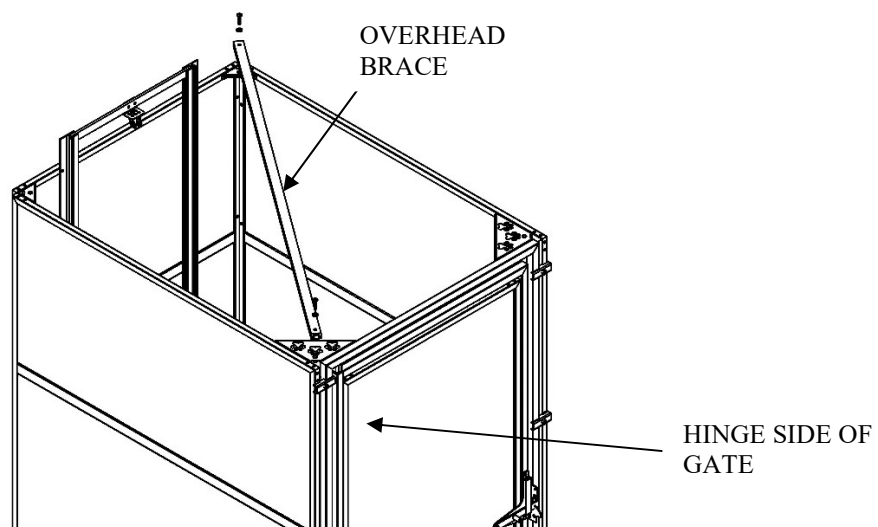

Figure 19
1. Place overhead brace diagonally on top of the previously installed gussets. The front of the brace should be on the hinge side of the gate as shown in Figure 19.